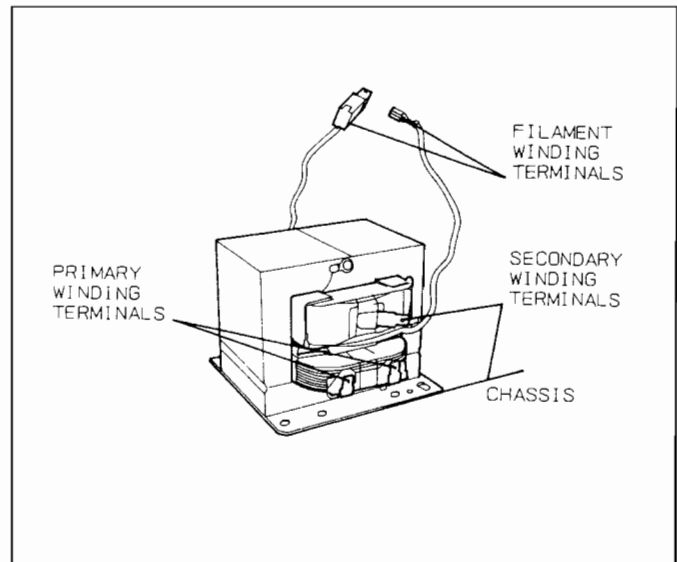

Fig. 30
1. High voltage transformer (refer to Fig. 30)
- (A) Remove connections from the transformer terminals and check continuity.
- (B) Normal (cold) resistance readings should be as follows: